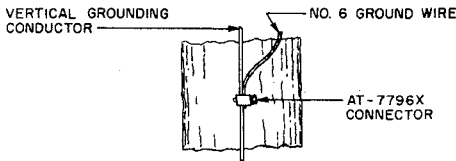

Fig. 1 — Ground Connection to Vertical Grounding Conductor
3.04 The connection to a vertical grounding conductor of a power system multi-grounded neutral is made in the telephone space on a pole by using an AT-7796X Connector as shown in Fig. 1.